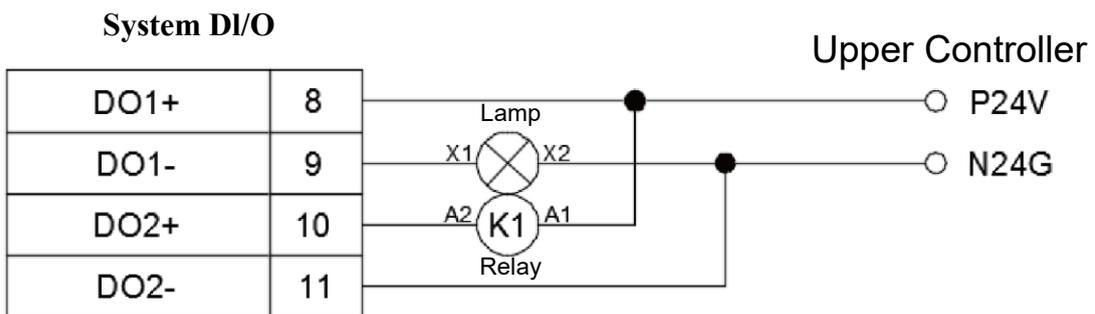

Figure 5.30 System DO upper controller voltage mixed output wiring
- Figure 5.30 shows the upper controller mixed NPN and PNP wiring method. This figure uses PNP output wiring for the lamp and NPN output wiring for the relay.